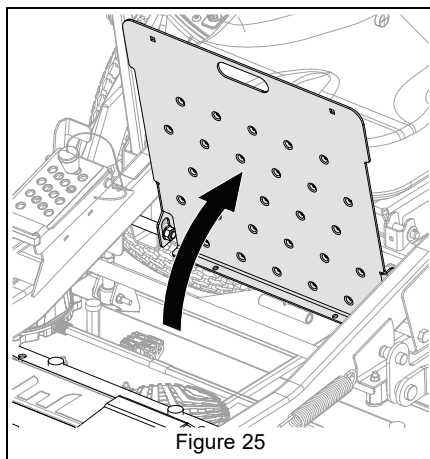

Figure 25
2. Rotate footplate rearward until it locks into place. See Figure 25.